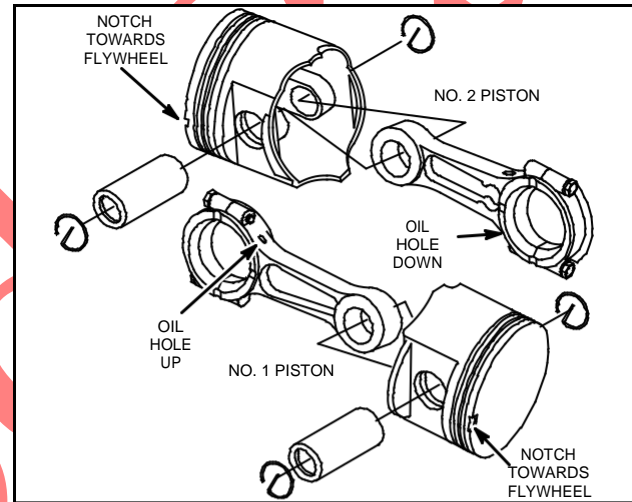

Fig. 9 – Models 400000 – 420000 Connecting Rod
**Engine Models 400000-422000:** Assemble No. 1 rod to piston with notch in piston facing flywheel side of engine and oil hole in connecting rod facing up, Fig. 9.
Assemble No. 2 rod to piston with notch in piston facing flywheel side of engine and oil hole in connecting rod facing down, Fig. 9.